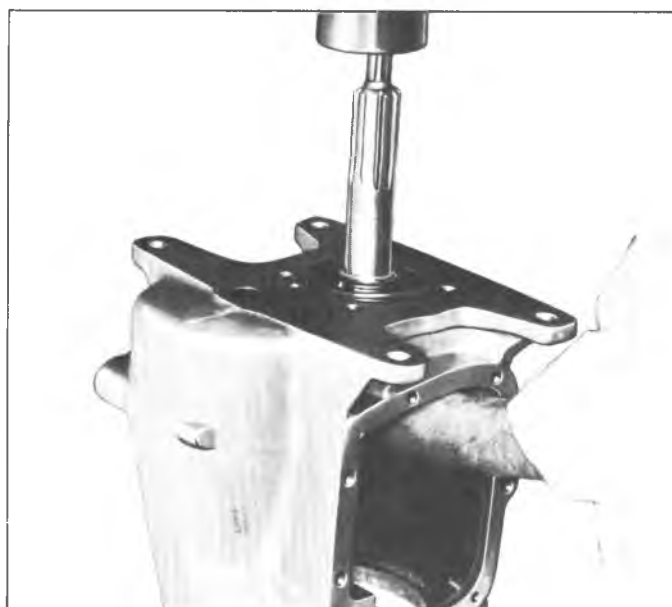

Fig. 7B--Removing Main Drive Gear
11. Press main drive gear down from front bearing (fig. 7B).